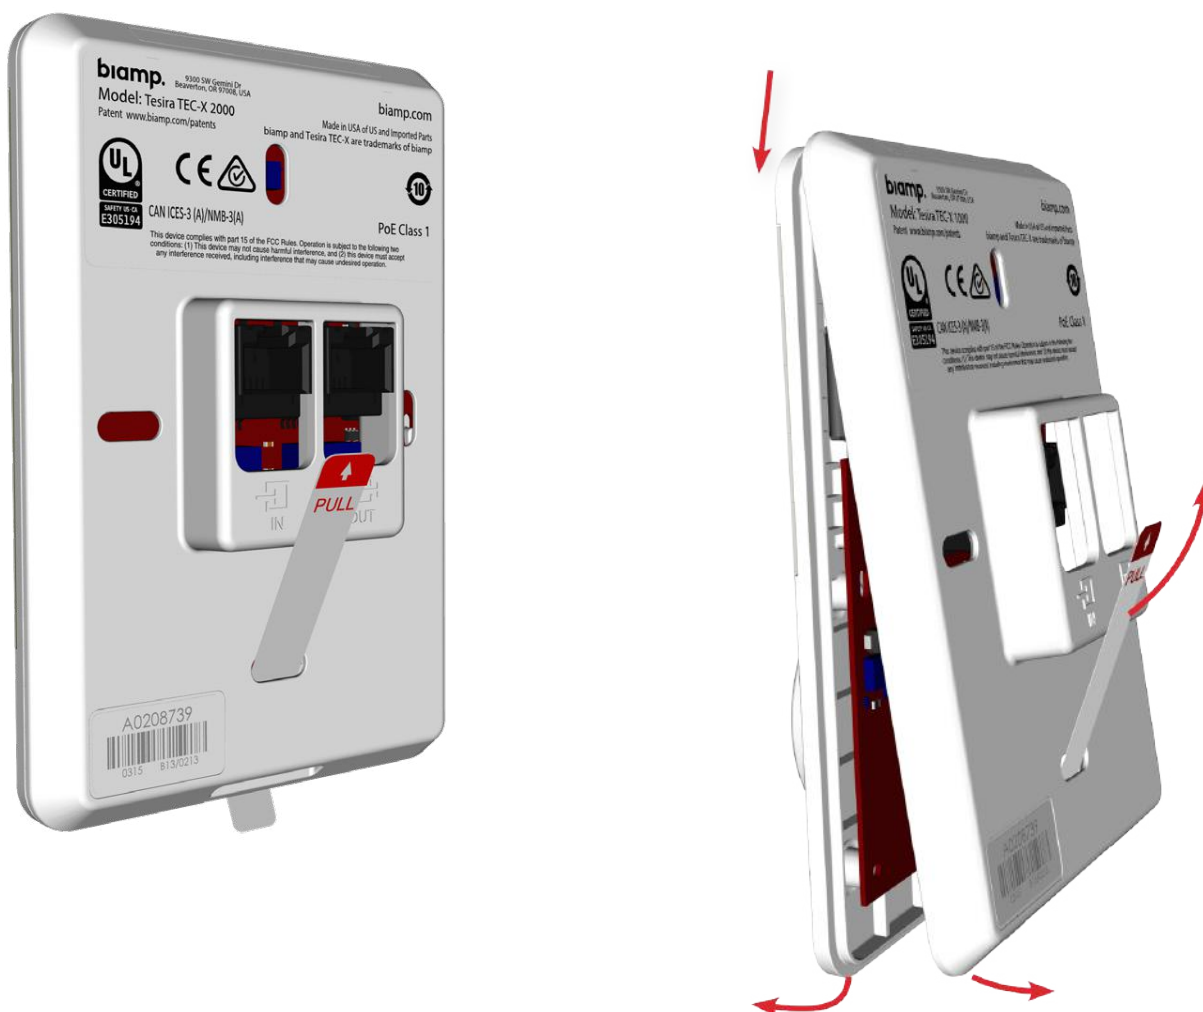

Figure 2. Separate front panel from back plate
1. See Figure 2. Pull down and out on the front panel to separate it from the back plate and remove the pull tab.